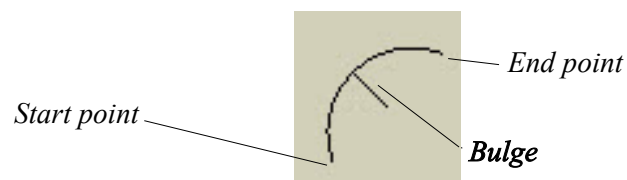

Figure 9. The Arc command
- The **Arc** command requires a start point, an end point and a 'bulge' distance as shown in Figure 9.